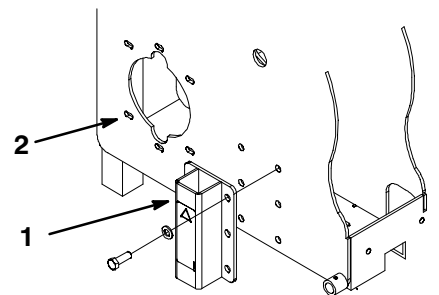

Figure 2
3. Install a wheel mounting bracket onto the side panel of the aerator (Fig. 2), using 6 bolts (M12 x 35 mm), 6 locknuts (M12), and 12 washers (M12).